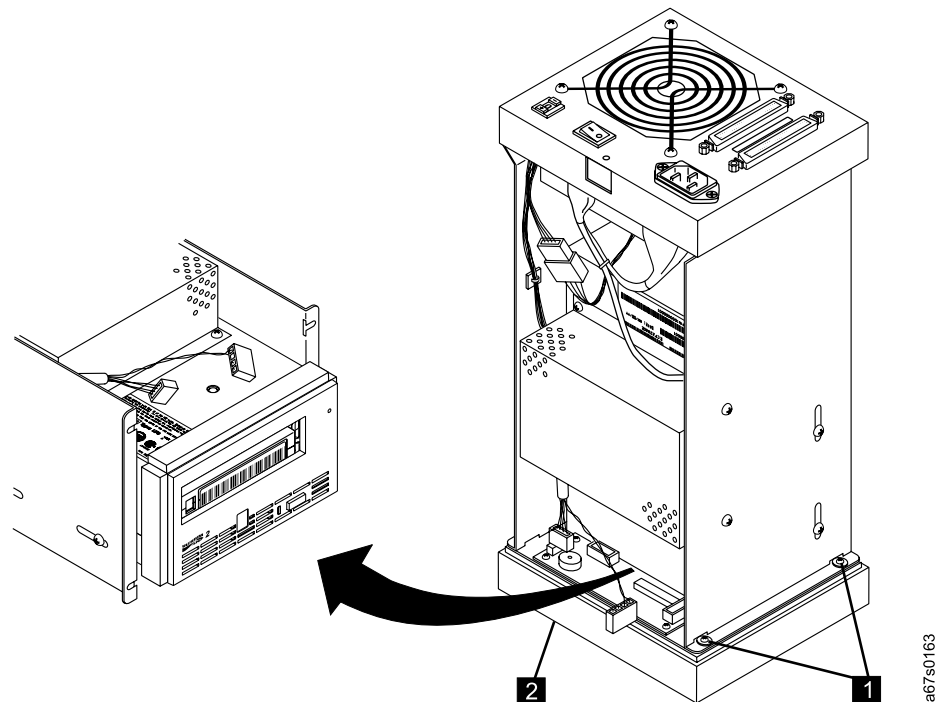

Figure 29. Removing the bezel from the 3580 Ultrium 2 Tape Drive
- c. Place the 3580 Ultrium 2 Tape Drive on its face (bezel side down) and use a Phillips screwdriver to remove the four bezel screws and washers (two on each side) (see **1** in Figure 29).